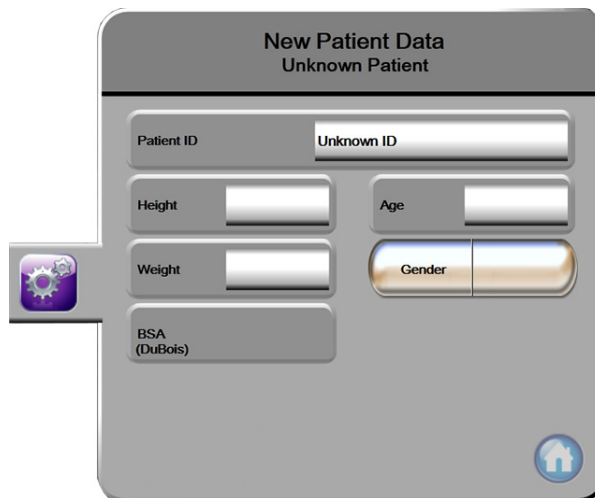

Figure 6-2 New Patient Data screen
- 5 The **New Patient Data** screen appears. See figure 6-2.